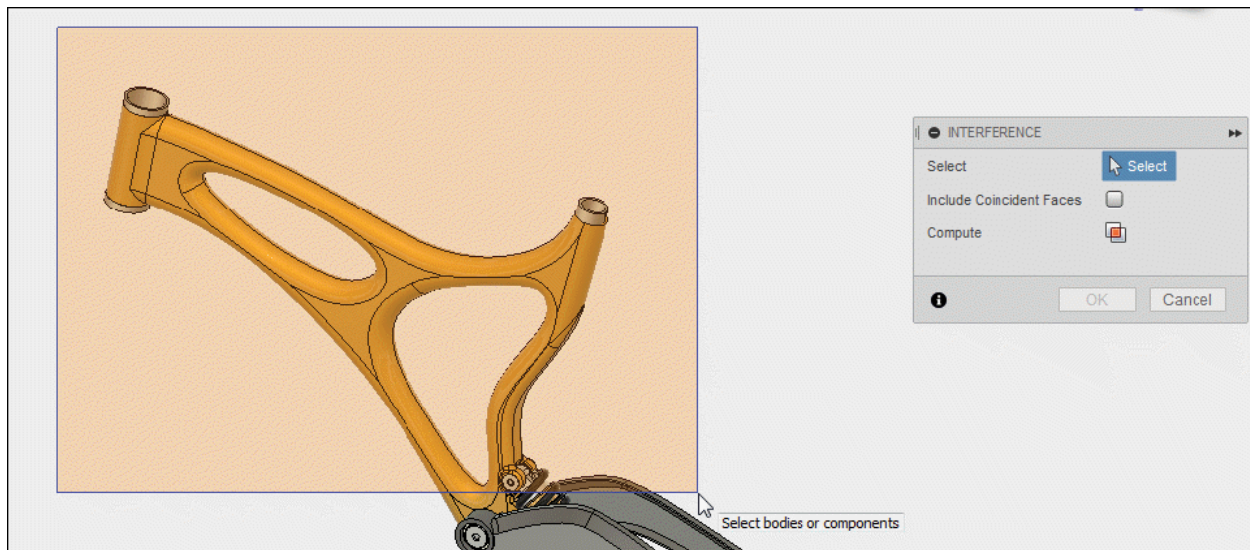

Figure-39. Selection of component for interference
- In our case, we are using window selection to select the component; refer to Figure-39.